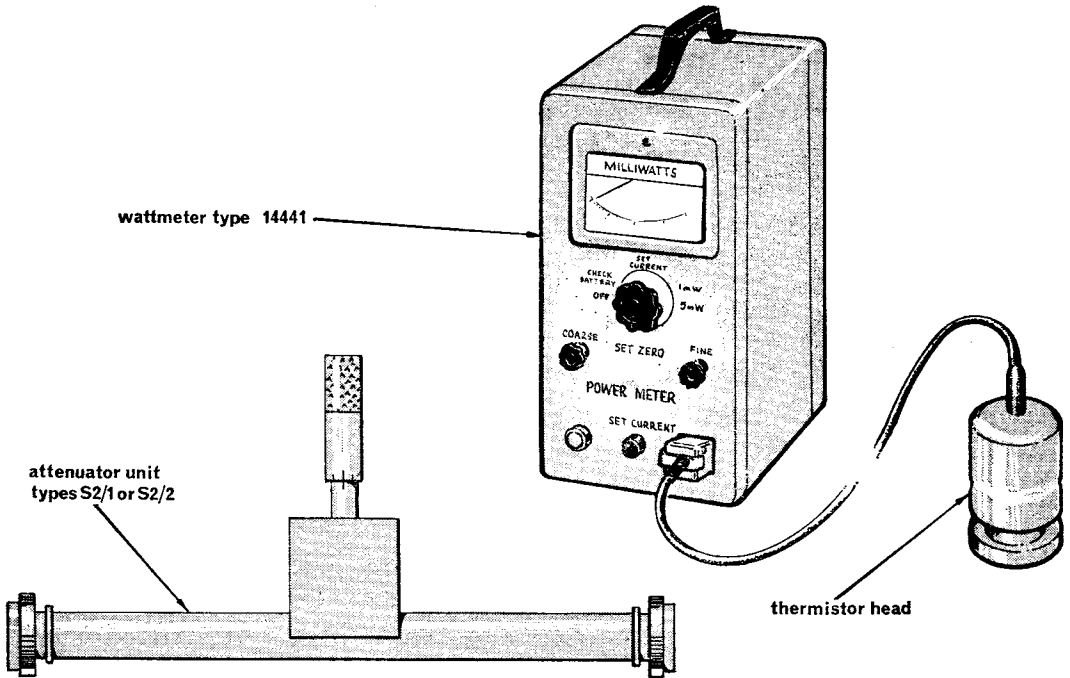

Fig. 12. Wattmeter type 14441
20. This is a portable battery operated thermistor bridge wattmeter which indicates true mean power on a linear scale (see figure 12). Two ranges are provided, from 50 microwatts to 1 milliwatt, and from 0.25 milliwatt to 5 milliwatts with an accuracy of about 5%. Fixed 30dB attenuators are available enabling powers up to 5 watts to be measured. The frequency range covered by the instrument is from 500MHz to 5000MHz and the impedance presented to the power source is 50 ohms. When the attenuators are used they must be tuned to the frequency of the source and the reading must be corrected by reference to the calibration chart fitted to the attenuator. Only the thermistor head which bears the same serial number as the instrument may be used as the bridge is preset for that particular head.